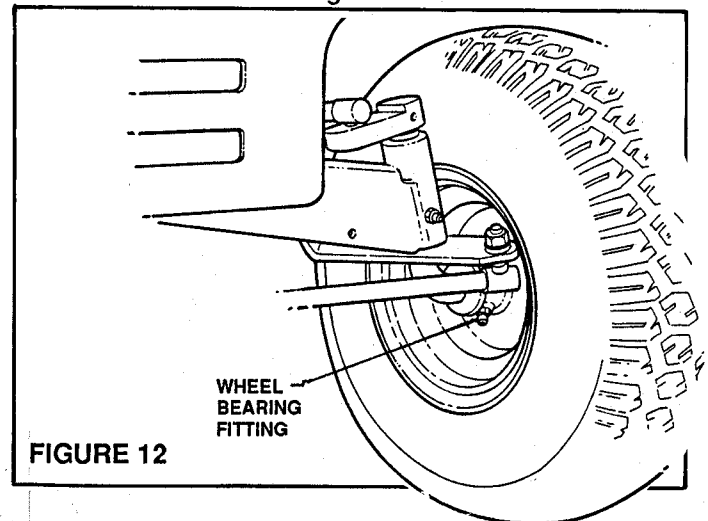

FIGURE 12
- **FRONT WHEEL BEARINGS:** Lubricate bearings through the fitting on hub of each front wheel. See Figure 12.